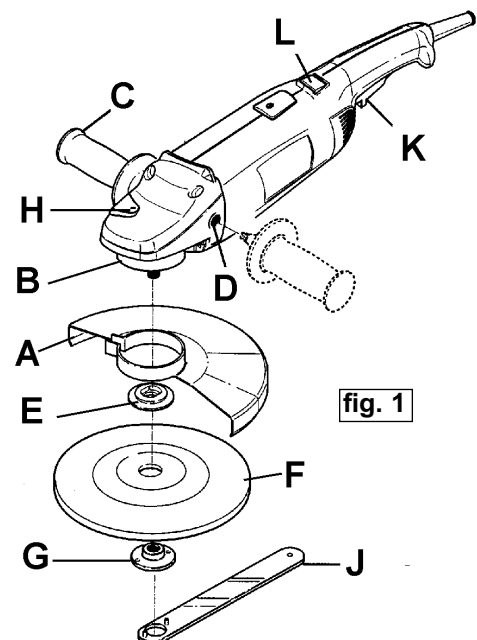
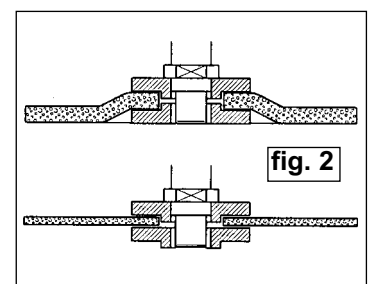

fig. 1
fig. 2
- 4.2.1. Place the guard (fig.1.A) over central spindle and seat clamp ring around flange (fig.1.B). Tighten clamp ring screw.
- 4.2.2. Screw handle (fig.1.C) into threaded mounting hole (fig.1.D). Note that handle may be mounted either side to suit application and/or operator.
- 4.3.1. Place the disc flange (fig 1.E) on the centre spindle ensuring that the spindle is fully engaged in the flange recess.
- 4.3.2. Place grinding disc (fig 1.F) on the spindle and screw on disc securing ring (fig 1.G). Note that orientation of securing ring will depend on thickness of disc (see fig.2)
- 4.3.3. Lock the spindle by pushing in and holding the stop button (fig 1.H) while turning the spindle by hand.
- 4.3.4. Tightening the disc securing ring (fig 1.G) with the pin wrench (fig 1.J). DO NOT over tighten.
The guard (fig.1.A) may be positioned at any angle according to the grinding task required.
The control switch (fig.1.K) is designed to avoid starting should the switch be pressed in error.
- 6.2.1. Start the grinder by pressing safety latch (fig.1.L) and then squeezing control switch. Once grinder is running release safety latch.
- 6.2.2. To switch off machine release control switch (fig.1.K), the machine will stop and the control switch will be locked in the 'Off' position.